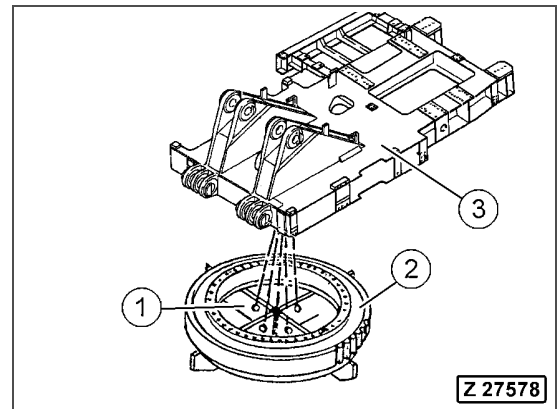

Fig. 3-194
- Place the swing circle (Fig. 3-194, Pos. 2) onto the mounting cross (Fig. 3-194, Pos. 1).
- Centre the swing circle (Fig. 3-194, Pos. 2) on the mounting cross (Fig. 3-194, Pos. 1) with help of the transport star.
- Position the mounting cross with the swing circle resting on it under the superstructure platform (Fig. 3-194, Pos. 3) and connect the mounting cross to a crane.